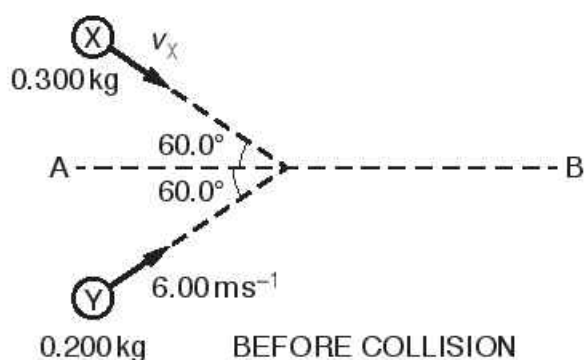

Fig. 4.1 (not to scale)
- 29 A ball X moves along a horizontal frictionless surface and collides with another ball Y, as illustrated in Fig. 4.1.